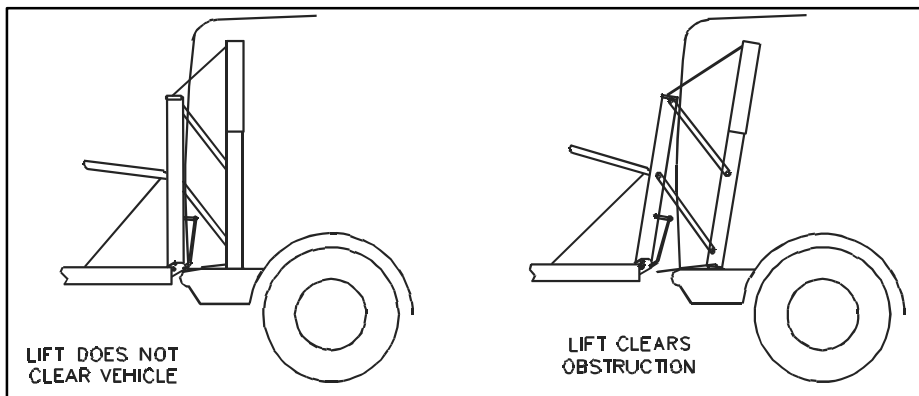

FIGURE 2-15: LIFT OPERATING CLEARANCE
- i. Refer to **Figure 2-15**. Using Control Pendant, CAREFULLY DEPLOY lift while observing for any contact with vehicle doorsill, bumper, or external accessories. (If lift does not clear vehicle, reposition or readjust extension bracket, intermediate bracket and/or base plate position.)